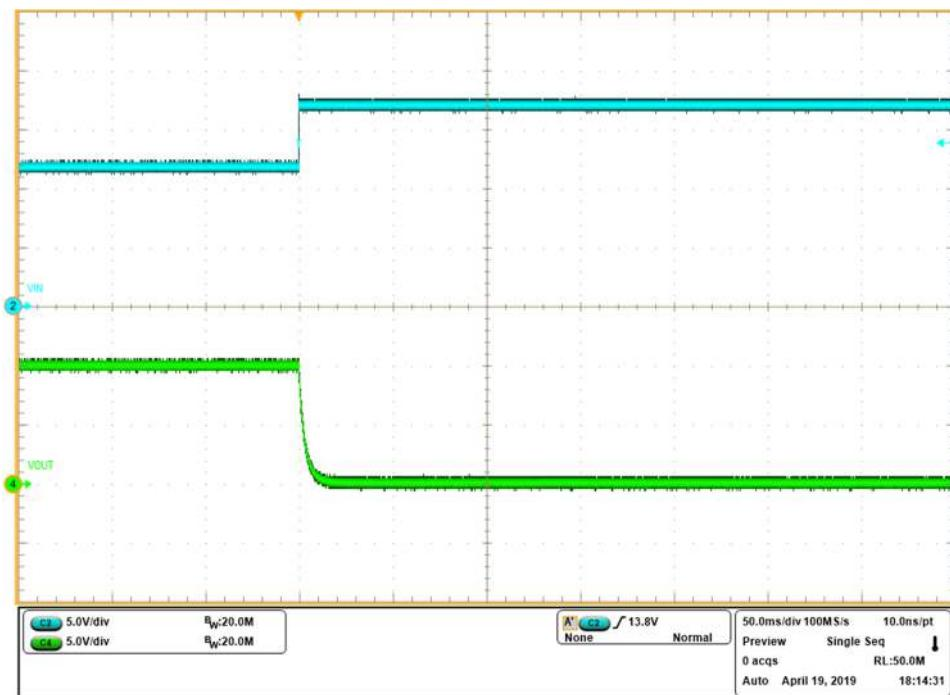

Figure 6. J12 = 1-2, Overvoltage Test (CH2)
4. Adjust the VIN2 power supply voltage to a value less than output lockout limit and turn it ON. Increase the VIN2 power supply voltage to a value above the lockout threshold. Verify the device turns OFF when VIN2 is increased beyond overvoltage lockout threshold (based on the respective jumper setting) and that the FLTb2 RED LED (D5) turns ON. Figure 6 shows overvoltage test for jumper setting, J12 = 1-2.